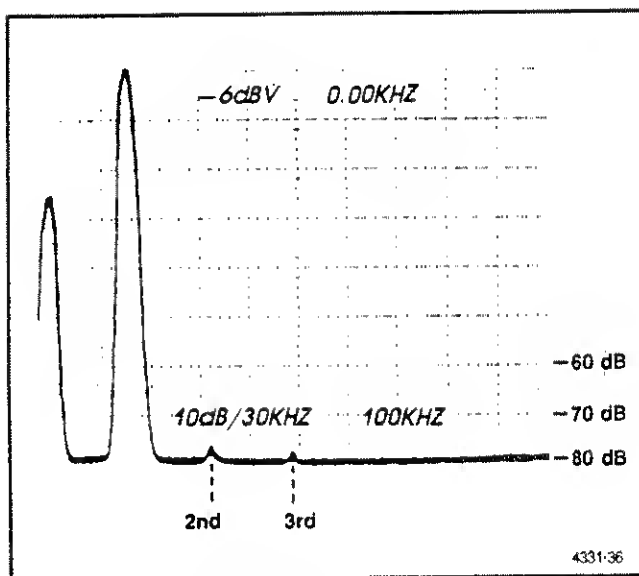

Fig. 5-8. 163 kHz THD display.
- Adjust the 7L5 Reference Level to position the peak at the top of the screen (see Fig. 5-8).